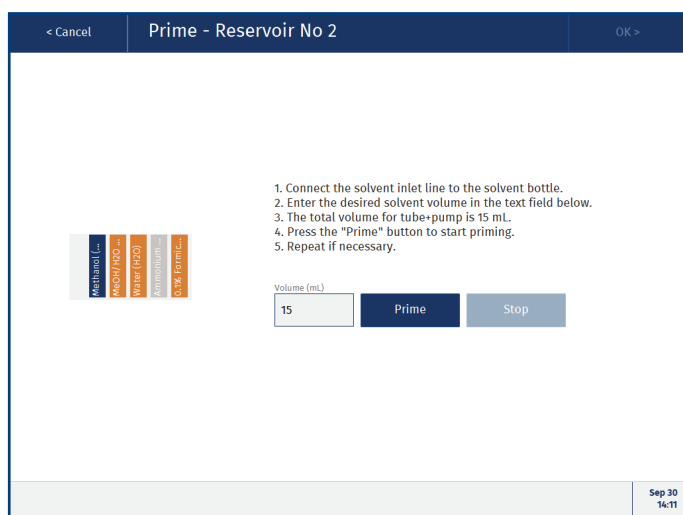

Figure 43. The Prime view for solvent reservoir S4.
- In the **Prime** view (see Figure 43), enter the prime volume and press **Prime**. Approximately 2-3 times 15 mL is required to fill the solvent inlet line and pump with the new solvent.